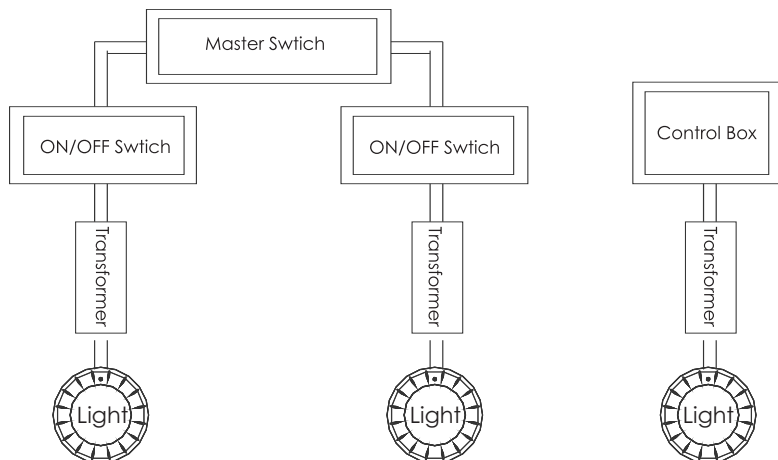

Figure 1
- 1) When the light is connected to the transformer directly, the on / off switch controls the colour changes (Linking a light with a transformer and an on/off switch is recommended; If you want all the lights to change colour at the same time, install a master switch, Figure 1).